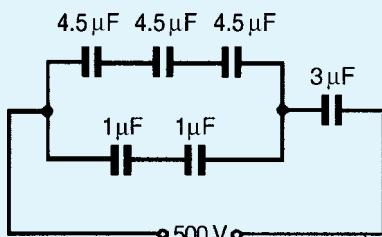

Figure 6.11
6. For the arrangement shown in Fig. 6.11 find (a) the equivalent circuit capacitance and (b) the voltage across a  $4.5\ \mu\text{F}$  capacitor.